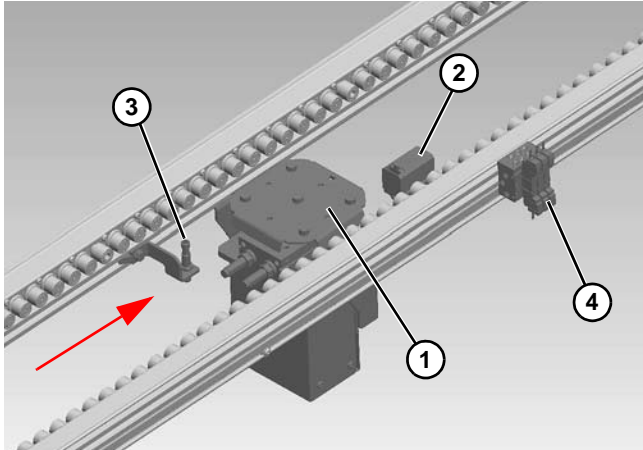

Figure 44
1. Install and adjust Lift and Rotate module (**Figure 44, item 1**).
2. Locate and install pallet stop (**Figure 44, item 2**). (Refer to “Pallet Stops” starting on page 8.)
3. Locate and install pallet sensor (**Figure 44, item 3**).
4. Install and connect pneumatic solenoids (**Figure 44, item 4**), provided by others.